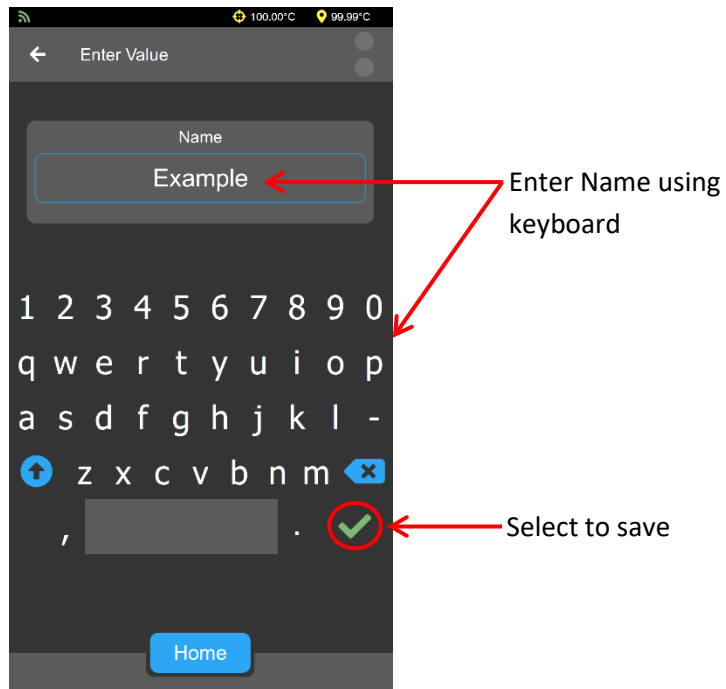

Figure 57: Change Dashboard Name
5. Use keyboard to enter desired name and then tap the green checkmark. See Figure 57.